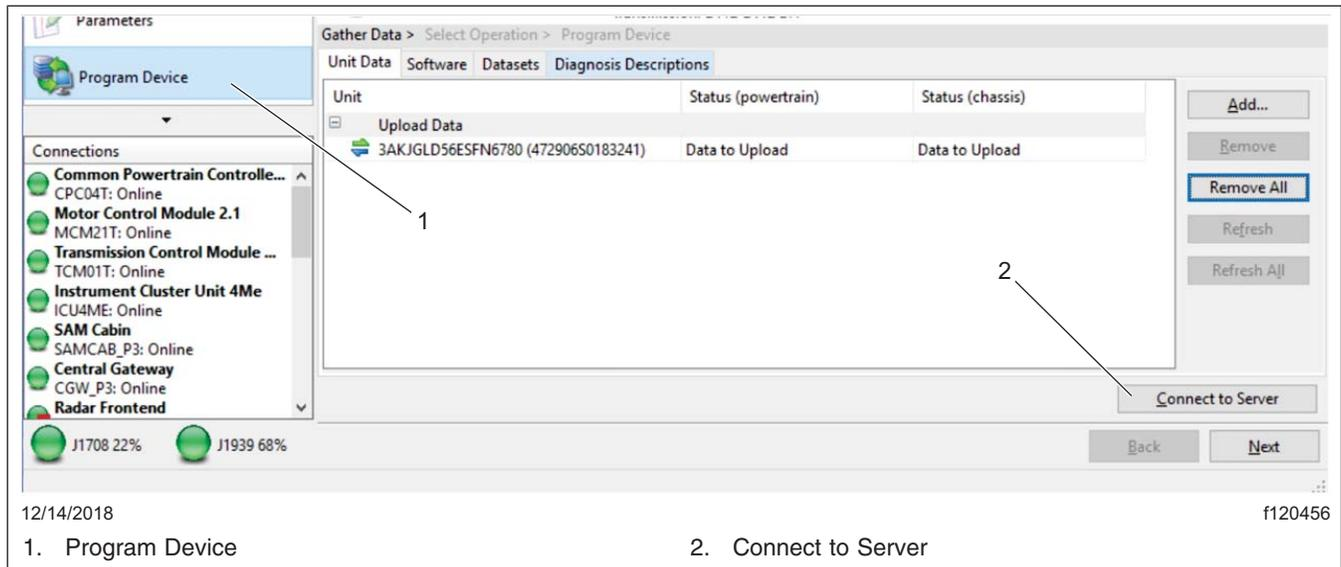

Fig. 4, Uploading Vehicle Parameters
6. Select "Program Device." There should be data to upload. Click "Connect to Server" to upload vehicle parameters to the server. See **Fig. 4**.